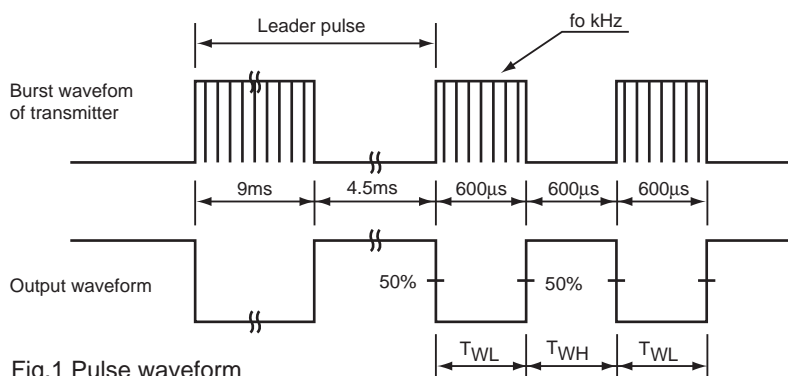
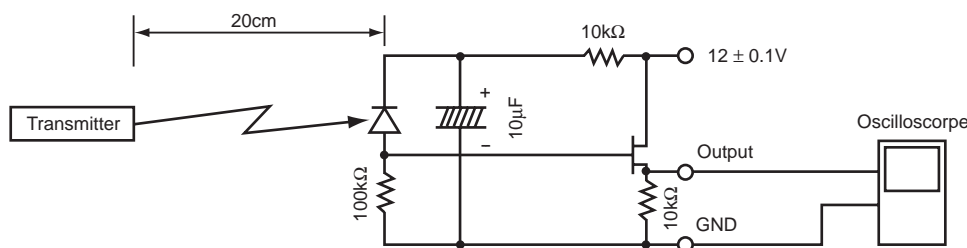

Fig.1 Pulse waveform
Fig.2 The output adjustment of transmitter
*2 As shown in Fig.1, burst wave shall be transmitted by our transmitter in item 7. Detector face illuminance : Ee < 10 lx
The Transmitter shall be defined by adjusting the output of transmitter to make $V_o=400mV_{p-p}$ according to the burst wave shown in Fig. 1 and measurement condition shown in Fig.2. In addition infrared LED used in the transmitter is set to $\lambda_{peak}=945nm$, $\Delta\lambda=45nm$, and photodiode used in the receiver is set to $32nA / I_x$ ($V_R=5.0V$).